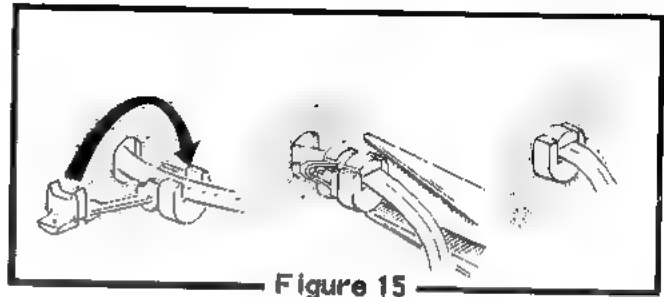

Figure 15
- () At a point 14-1/2" from the end of the line cord, position the strain relief as shown in Figure 15, which shows the strain relief (#75-71) for the flat line cord supplied with the kit. If you are using a round line cord, use the other (#75-30) strain relief.
- () Connect the smooth line cord lead to E4 (S).
- () Solder the green line cord wire to the eyelet in the mounting foot of terminal strip A (S).
- () Connect the ribbed line cord lead to A3 (S).
- () Connect an insulated wire to E5 (S). Wrap this wire around the smooth line cord lead and connect it to A1 (S).